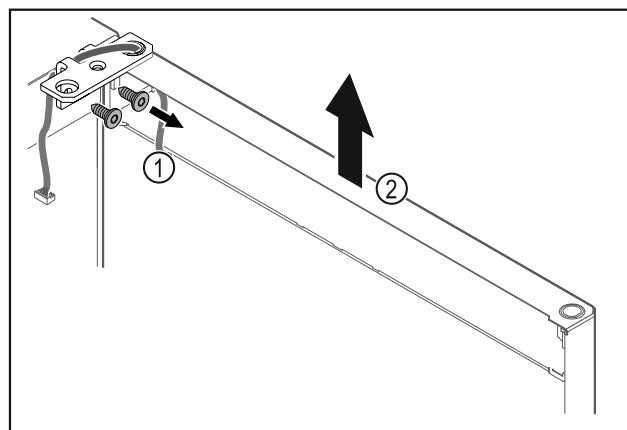

Fig. 28
- Unscrew the hinge Fig. 28 (1).
- Lift the door with the hinge straight up by Fig. 28 (2) roughly 200 mm and take it off.